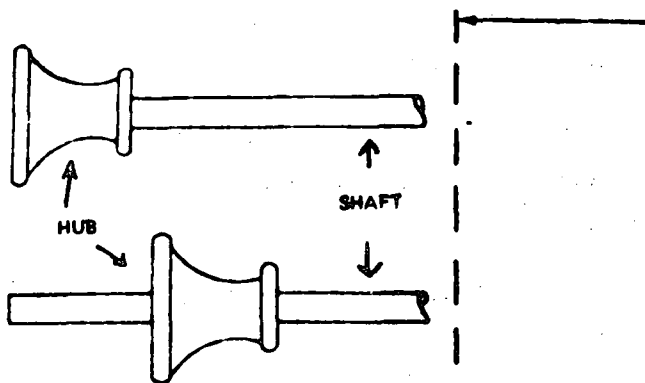

Fig. 2 The hub of the wheel moves along the left rear axle of the tractor.
- by shifting its position on the axle (Fig. 2),